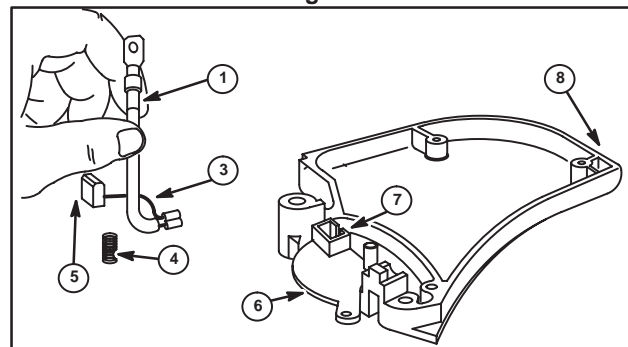

Fig. 14
- Fig. 14
- Braided wire (fuse) (3)
- Spring (4)
- Brush (5)
- Switch lever (6)
- Brush retainer (7)
- Top (8)